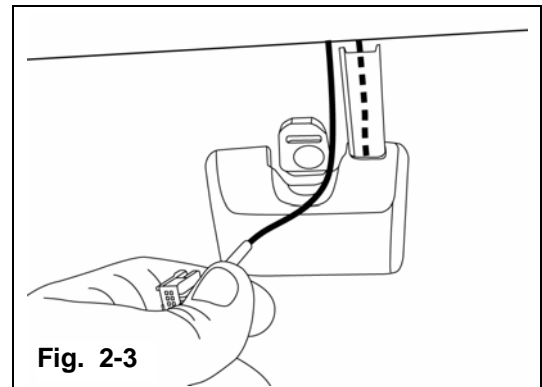

Fig. 2-3
- a) Snap supplied rain-sensor cover over rain-sensor and rain-sensor harness. **(Fig. 2-3)**